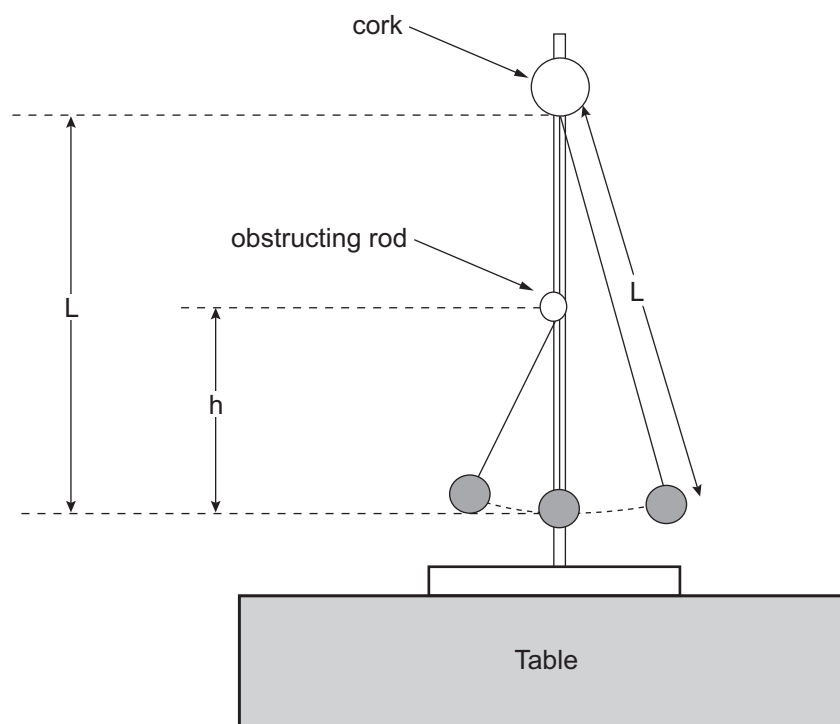

Fig. 1.1
You are provided with a pendulum suspended from a cork attached to a retort stand. The length L of the pendulum is set at 70.0 cm and **should not be changed during the experiment**. A second clamp is attached to the retort stand so that the rod of the clamp obstructs the motion of the pendulum as it swings, as shown in **Fig. 1.1**.
- (a) h is the distance between the position of the rod and the centre of the pendulum, as shown in **Fig 1.1**. Adjust h to a value of about 10cm. You can change h by moving the boss holding the obstructing rod, but the length L of the pendulum must not be altered. Displace and release the pendulum so that it swings to and fro with a small amplitude, with the string of the pendulum hitting into the obstructing rod on each oscillation. Take readings to allow you to determine an accurate value for the period of oscillation T . Record all your results in **Table 1.1** adding any extra headings required. Repeat the procedure until you have five sets of corresponding values of h and T for heights in the range from 10cm to 50 cm, at approximately 10 cm intervals.